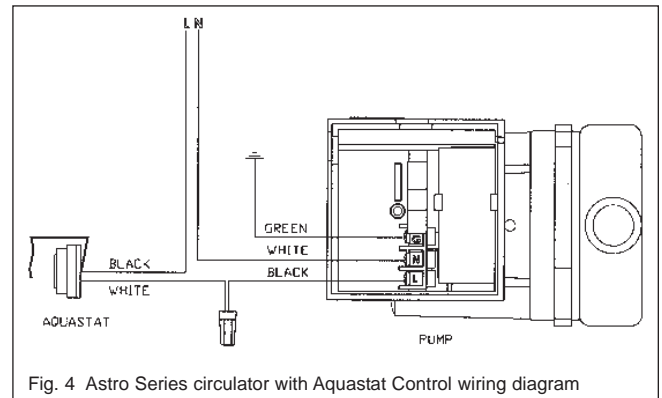

Fig. 4 Astro Series circulator with Aquastat Control wiring diagram
3. Connect the black, green and white lead wires according to the wiring diagram (Fig. 4)